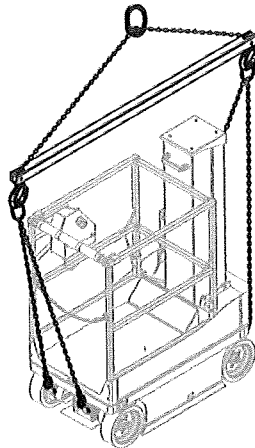

Figure 3-10. Appropriate Lifting Method
- An appropriate spreader bar and straps/chains or other suitable lifting devices may be used during lifting. Refer to Figure 3-10 for an example of an appropriate lifting method.